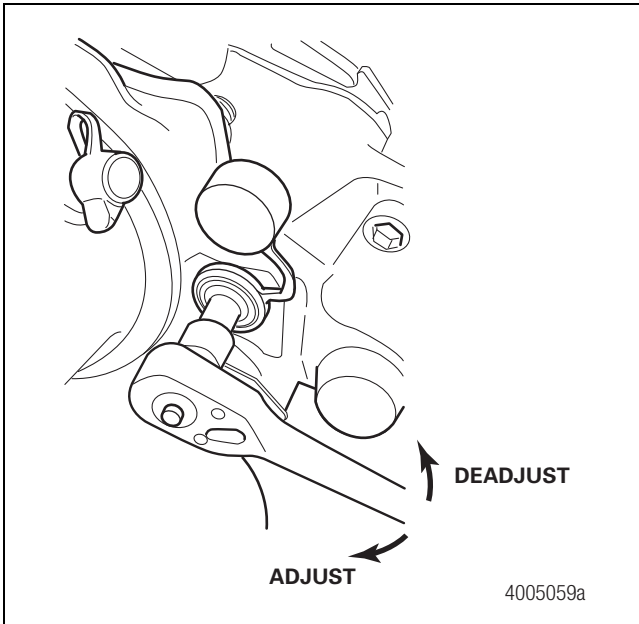
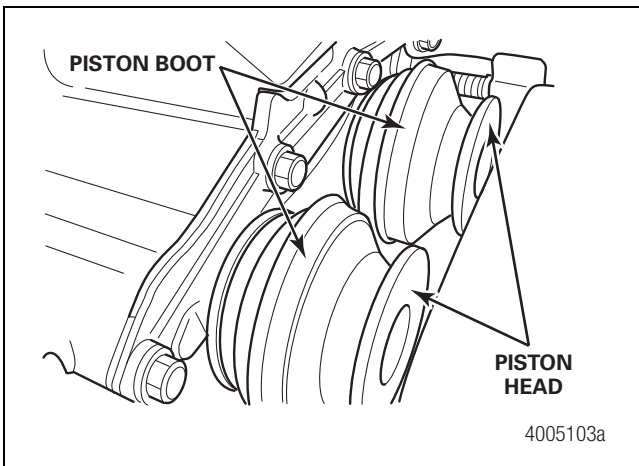

Figure 5.11
Figure 5.12
3. Use a 10 mm wrench to rotate the manual adjuster stem **CLOCKWISE** until the piston assemblies are extended approximately two-inches (50 mm). Figure 5.11 and Figure 5.12.